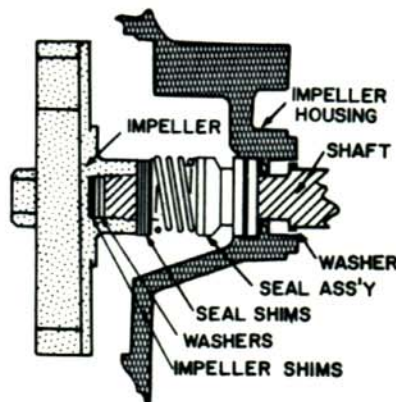

FIGURE 1
4. Install the original seal shims (if any), impeller shims and washers, then the impeller. (Figure 1)